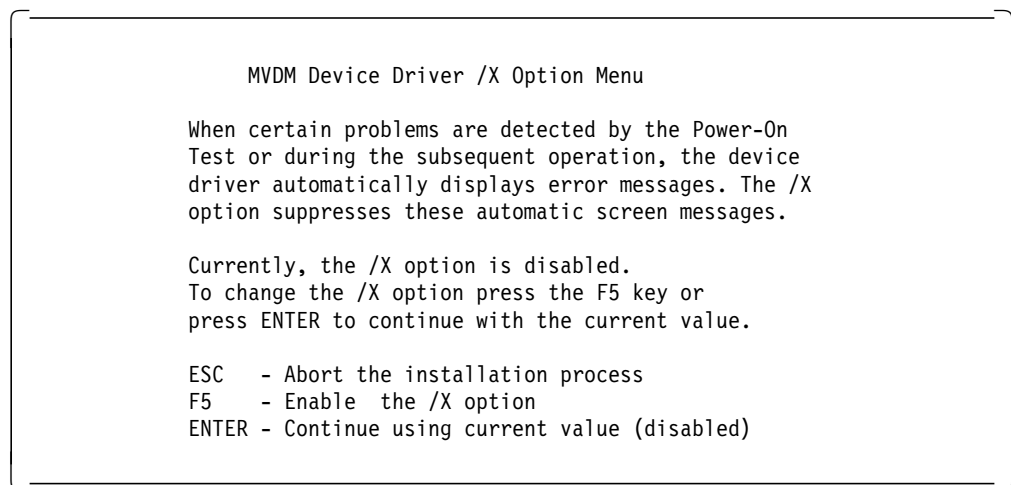

Figure 72. MVDM Device Driver /X Option Menu
6. Press Enter and Figure 72 on page 123 will be displayed if you chose to install the MVDM device driver support.
5. Press Enter and Figure 72 will be displayed if you chose to install the MVDM device driver support.
1. Assuming that you chose MVDM support then Figure 72 will be presented.